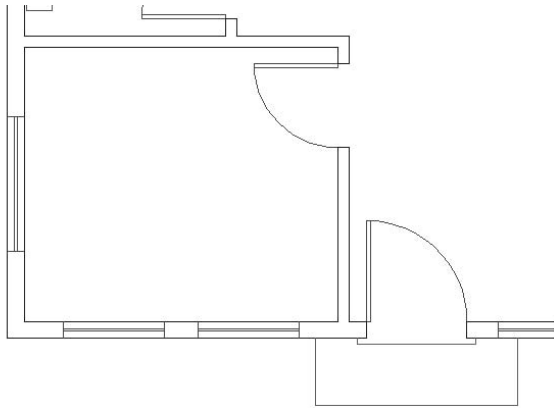

FIGURE 7.34: Zooming in to see the revised window blocks with double glazing
13. Zoom in to a closer look at the bedroom in order to view some of the modified window block references (see Figure 7.34).